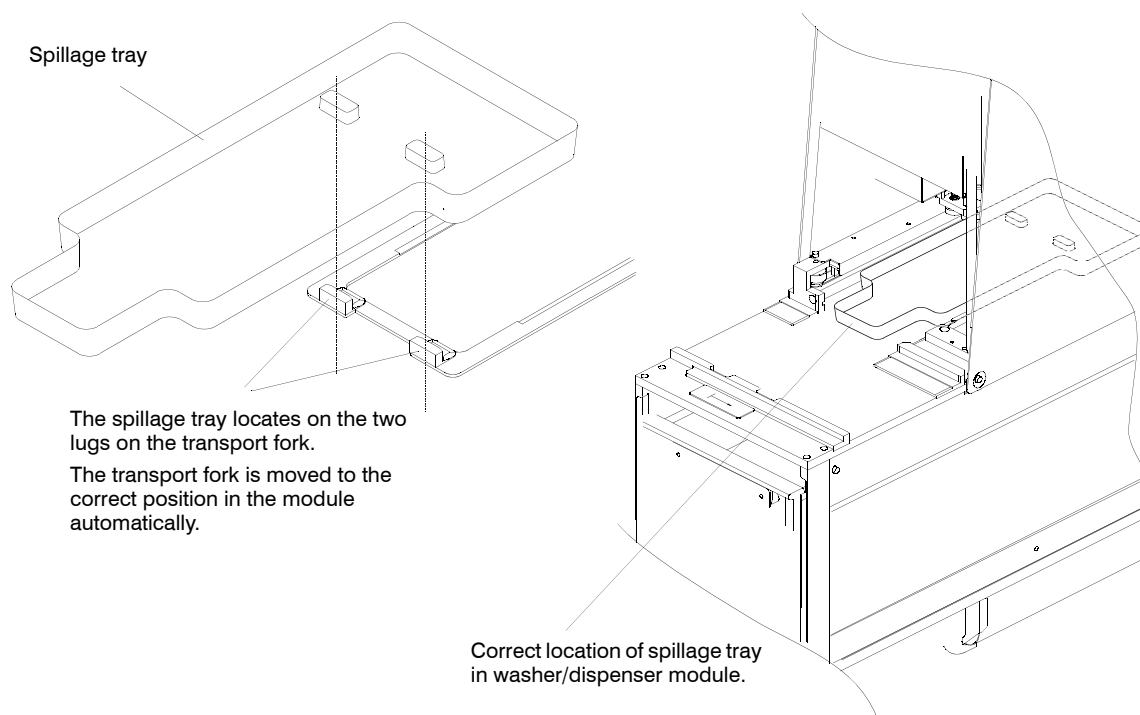

Figure 15.3 Spillage Tray and its Position in Module
- ☐ Spillage tray (supplied with instrument, see Figure 15.3).